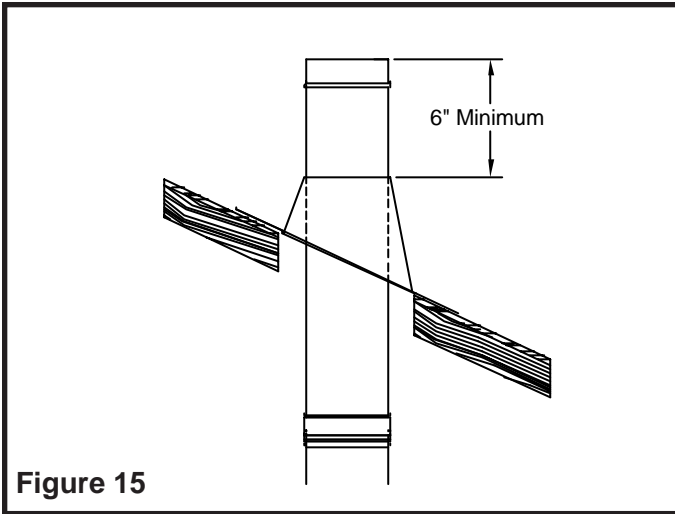

Figure 15
- 9) Continue installing vent sections up and through the Roof Flashing installed earlier. The vent will easily slide through the opening of the flashing. The vent pipe must extend a minimum of 6 inches past the top of Roof Flashing (See **Figure 15**).